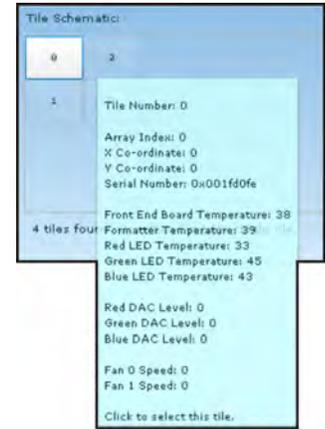

Figure 3-15 Tile Schematic
1. Either click **Select All** to select each tile in the array or click on an individual Christie MicroTiles in the Tile Schematic window. The Tile Schematic window displays the physical layout or map of all the Christie MicroTiles (**Figure 3-15**). Clicking and dragging the background pans the view. Clicking on an individual tile selects it. Click the +/- keys to zoom in and out. Click **Reset** to return to the original view. Click **Refresh** to re-sync the view to the latest information from the server.
2. To check the status of a particular tile, hover over the specific tile to display its schematics (**Figure 3-15**).